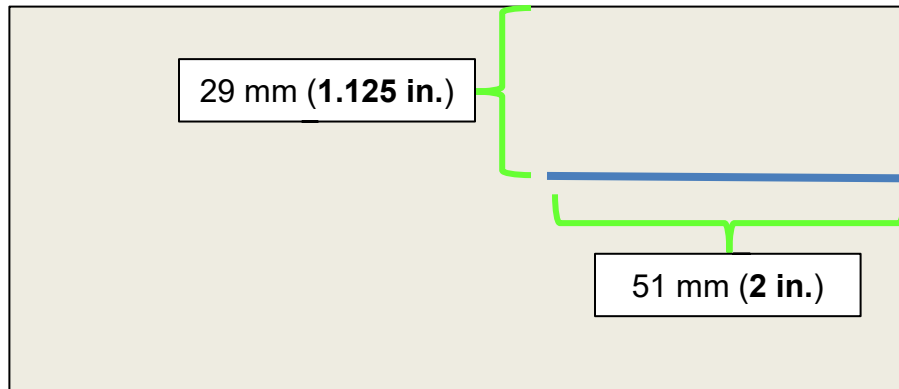

Figure 34
43. On the foil side of one (1) of the four (4) Butyl Patches, measure and mark a line, as shown in Figure 34, and then using scissors cut along the line.